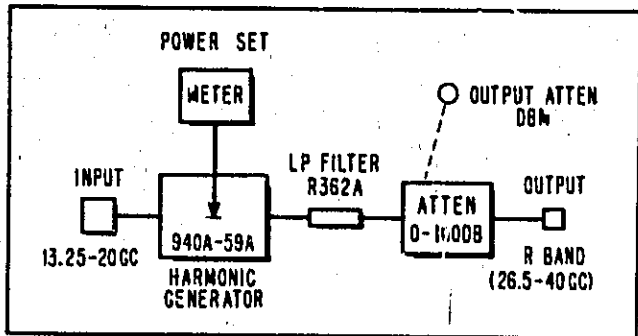
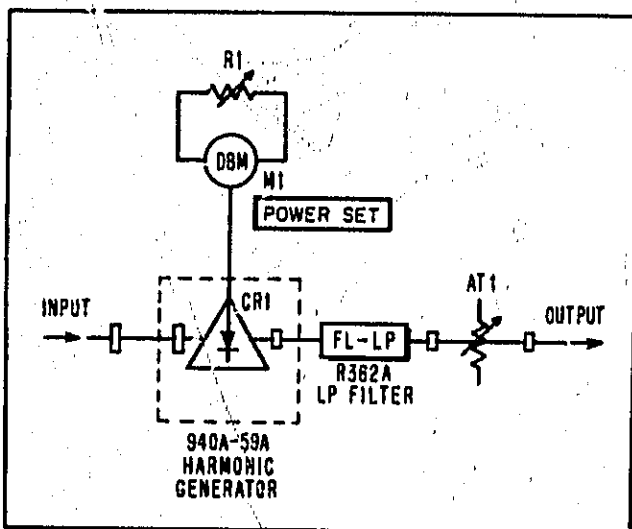
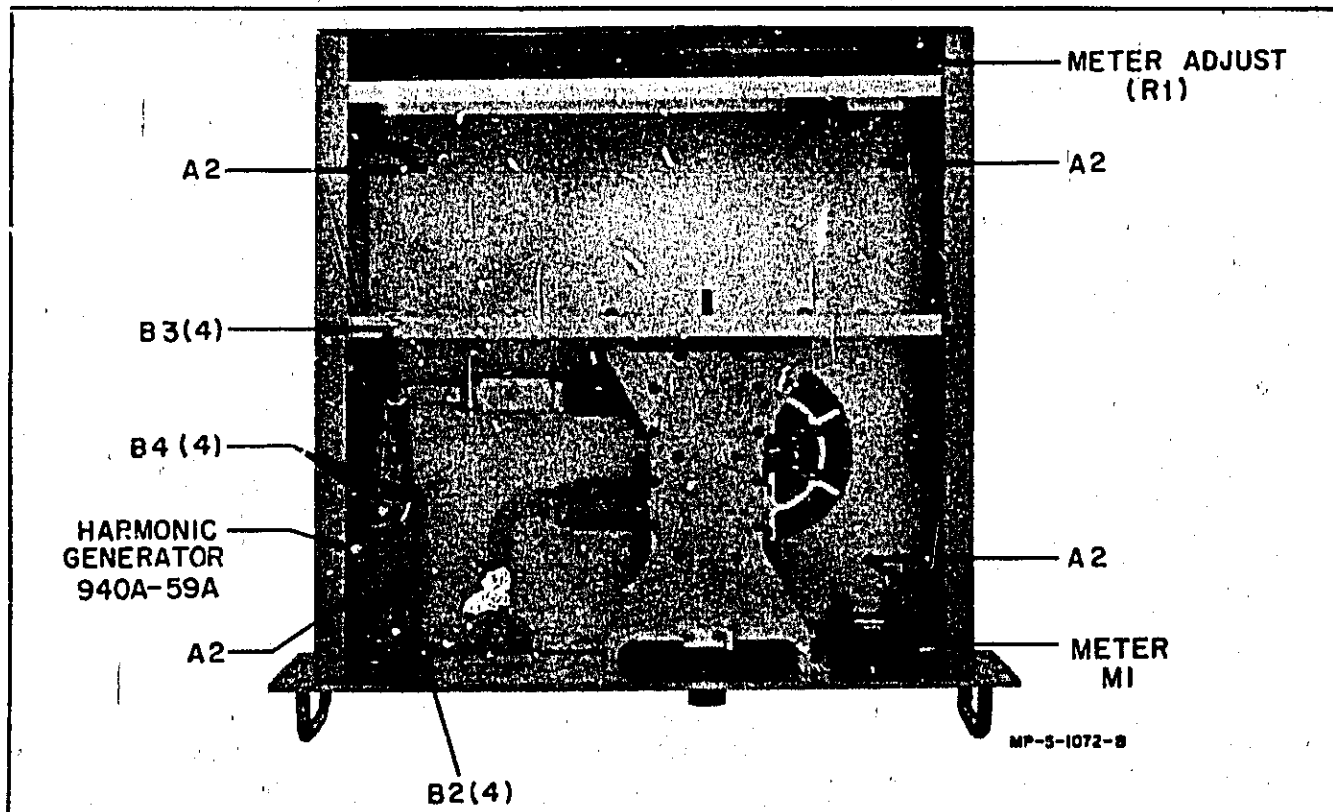

Figure 1. Model 940A Frequency Doubler Set Block Diagram
Figure 2. Model 940A Frequency Doubler Set Schematic Diagram
Figure 3. Model 940A Frequency Doubler Set, View from Bottom, Plate Removed
4. The Model 940A Frequency Doubler Set includes a harmonic generator, a monitoring meter, an R-band filter, and an output attenuator. Arrangement of the set is shown in block-diagram form in figure 1, schematically in figure 2.
- (1) Remove the screws which hold the feet in place, and pull off the four feet. Remove the bottom plate.
- (2) The top-and-rear plate is secured to the chassis by four machine screws accessible from inside the instrument. These screws are designated A2 in figure 3. To loosen the screw near the harmonic generator, use a right-angle screwdriver.
- b. Remove the screws (8) designated B2 and B3 in figure 3.
- d. Remove the four screws designated B4 in figure 3. Lift the R-band section off the assembly.
b. Fasten the 940A-59A in position (see figure 3) with the eight screws removed in step 17-b. Fasten all screws finger tight, and then tighten them.
(2) Set the Model 940A attenuator for 0 db.
(3) Set the frequency control on the signal generator (Model 628A) for 15 gc and the output level to obtain a reading of -3 dbm on the Model 430C Microwave Power Meter.
(4) If the Model 940A POWER SET meter does not read -3 dbm, adjust meter shunt R1 (identified in figure 3) to obtain a reading of -3 dbm.
(5) Repeat this procedure with the Model 628A set for 20 gc, and then for one intermediate frequency. Adjust the meter shunt for the best across-the-band compromise.
25. Parts information is given in table 2. Parts listed in table 2 are shown schematically in figure 2 or photographically in figures 3 and 4. Except for the hardware, table 2 lists the manufacturer's name and the stock number for each part. The table also gives the total quantity (TQ) used in the instrument, and recommended spare quantity (RS) for one year of isolated service.